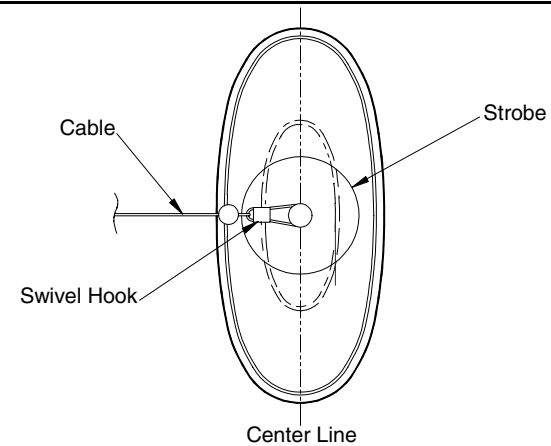
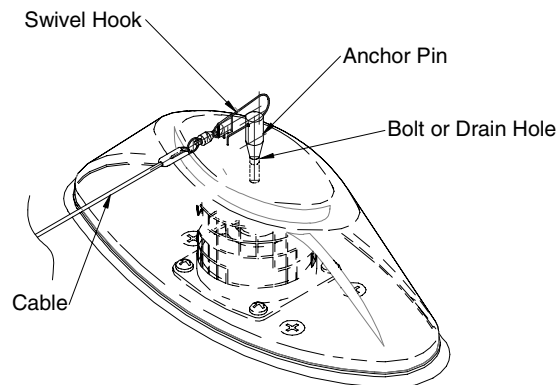

Fig. 8
Fig. 7
1. **ATTACH THE CABLE TO THE LIGHT.** The strobe light should be off. If the strobe has a screw, nut, or drain hole in the lens cover, the swivel hook/anchor pin at the end of the cable can be directly attached to the strobe. When using the drain hole in the lens cover, insert the anchor pin a minimal distance assuring that it does not come in contact with the strobe bulb or reflector (Fig. 7). If a screw or nut is protruding from the lens cover or there is an attachment screw in line with the center of the strobe, attach the swivel hook. In lieu of these options, duct tape or any other alternate method may be used. When using any of these methods, the cable end must be located at the center line of the strobe bulb within +/- 1.0 inch (Fig. 8).